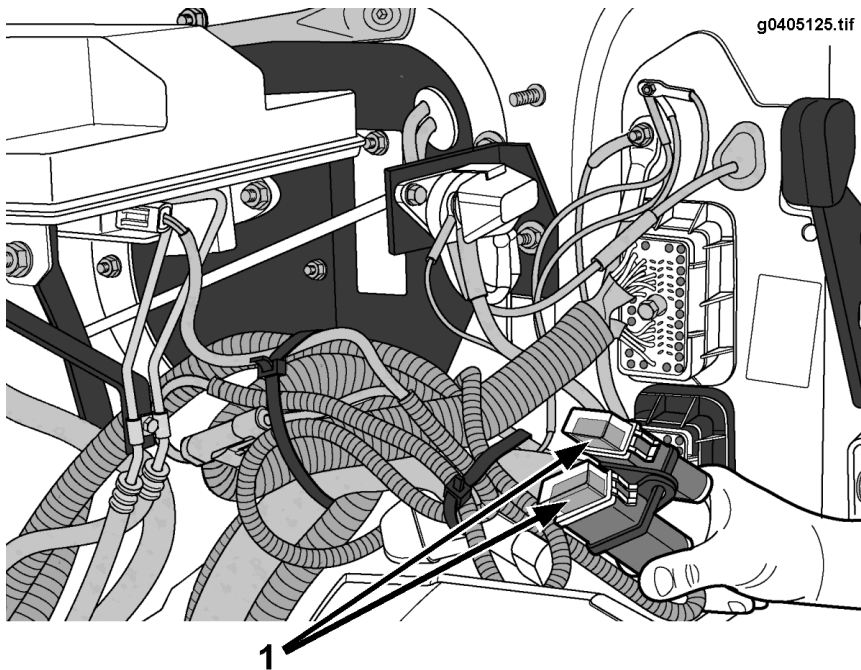

Figure 25 Location of Motor Fuses
2. Set the ignition key to OFF and remove the two 30 Amp fuses that provide power to the brake system motors. The fuses are bundled in the cowl wire harness located near the master cylinder (refer to FIGURE 25).